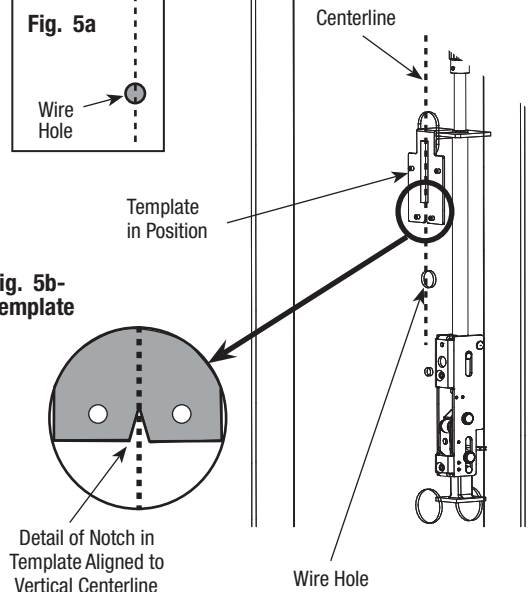

Fig. 5b-
3. Check that template is square to door. (See Figure 5b).